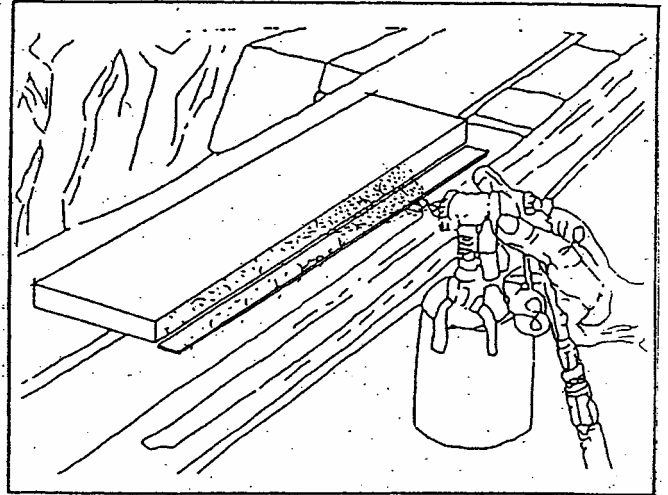

Figure 3
1. Apply adhesive to the edge strip material and to the substrate edges. See Figure 3.